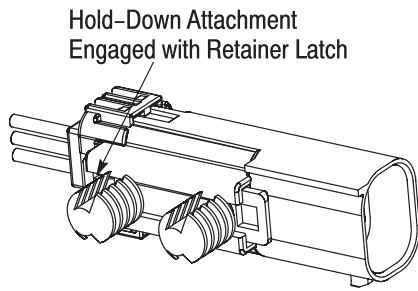

Figure 5
2. Slide the hold-down attachment onto the cap connector until it engages the retainer latch of the cap connector. See Figure 5.